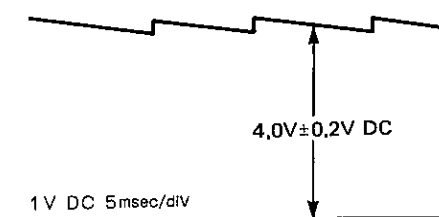

Figure 39.
2. Monitor TP6 using an oscilloscope and adjust R779 (capstan lock) to the requirement in Fig. 39.